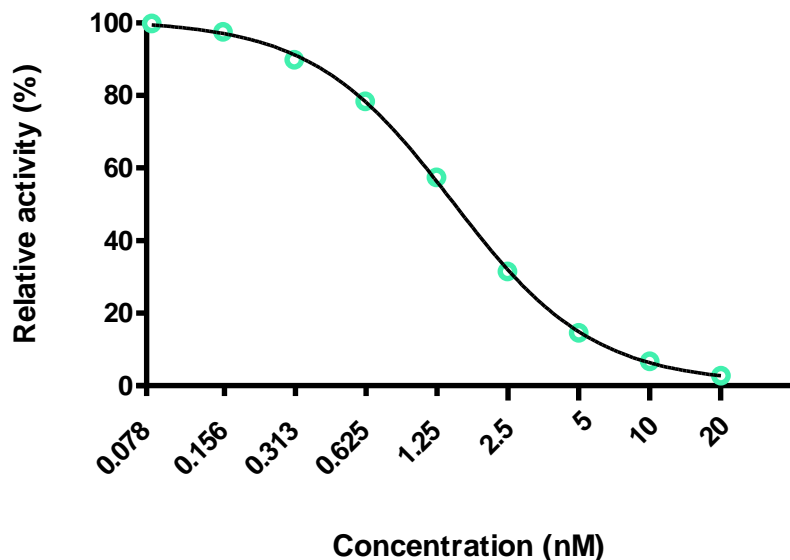

Figure 2. Inhibition of 3CL protease activity by GC 376 as measured with SensoLyte® 520 SARS-CoV-2 3CL Protease Activity Assay Kit.
- Plot the Hilyte™ Fluor-488 fluorescence reference standard curve as RFU (relative fluorescent units) versus concentration as shown in Figure 2.